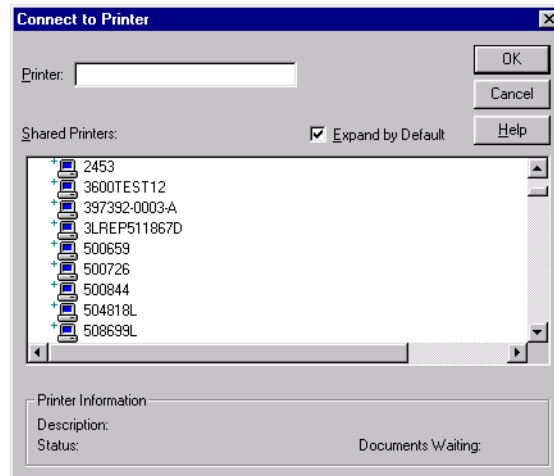

Figure B-16: Connect to Printer Dialog Box
2. In the Connect to Printer dialog box (Figure B-16), select the desired printer by clicking it, then click OK.